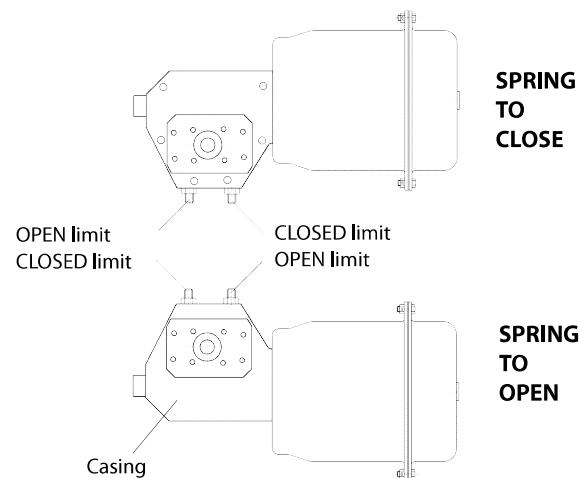

Fig. 46 Installation of a Quadra-Powr actuator and adjustment of the open and closed limits
Quadra-Powr actuators may be used for spring-to-close and spring-to-open operations depending on the installation position. After selecting the desired operation, see Fig. 46 for the correct installation position.
- Adjust the valve open and closed positions by means of the screws at the side of the actuator; remember to tighten the locking nuts. See Fig. 46.